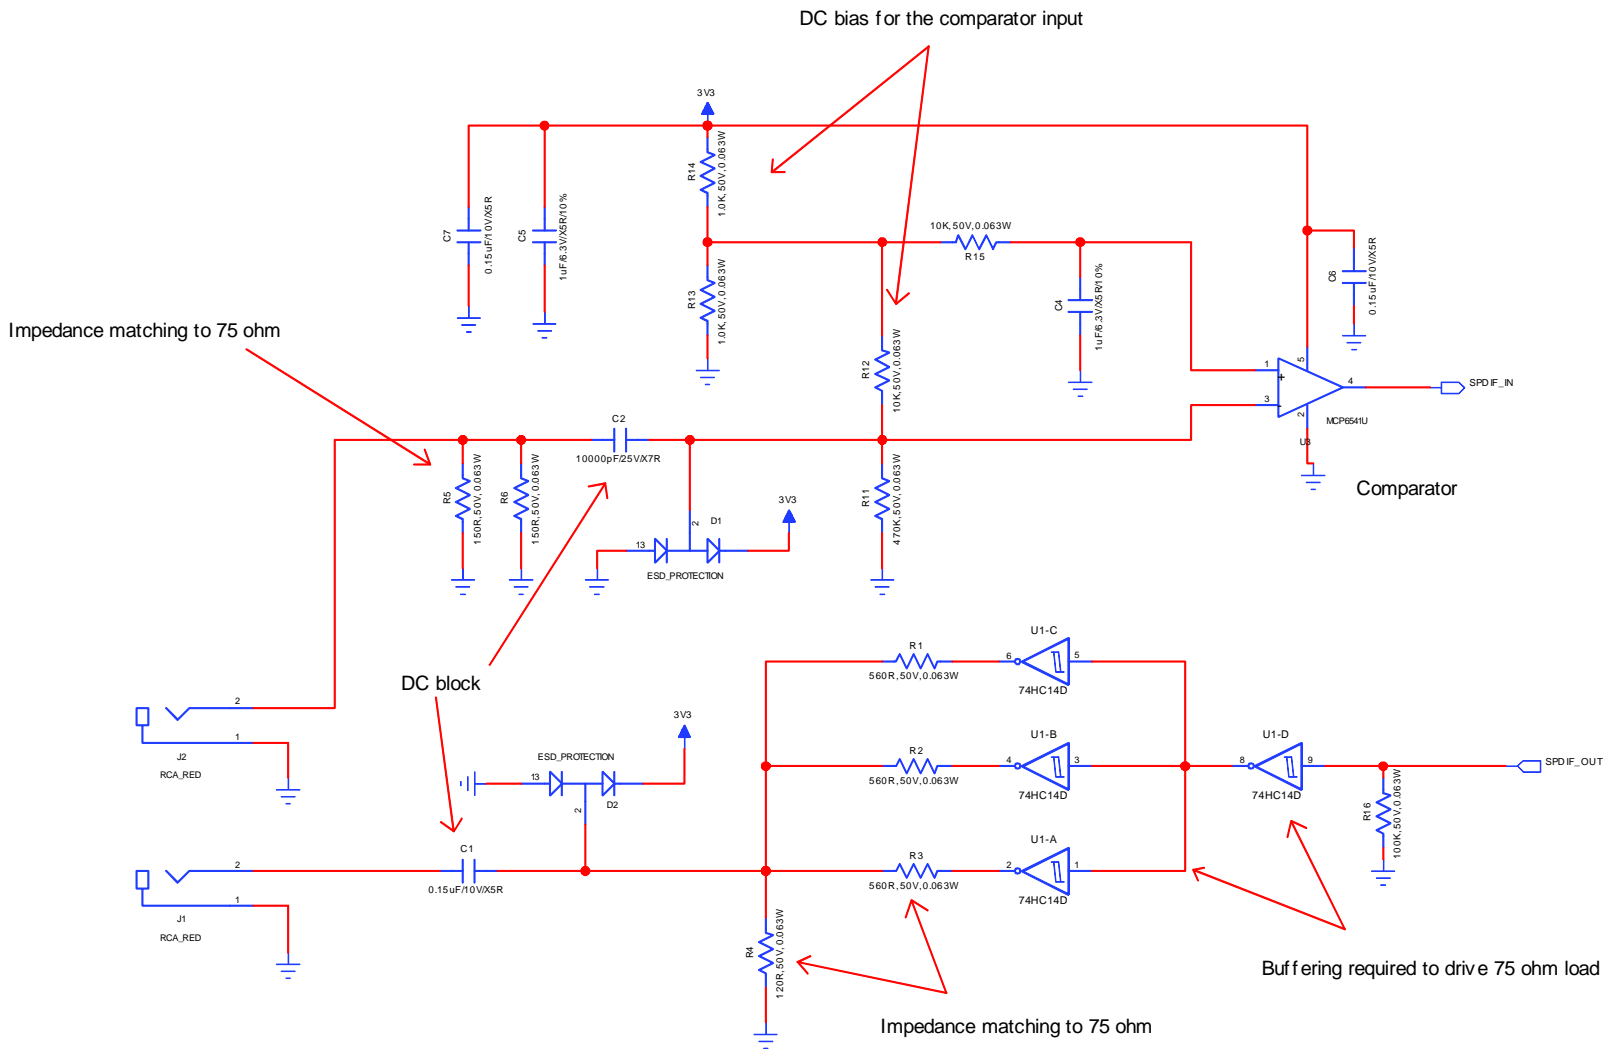

Figure 25: Example circuit for SPDIF interface (co-axial)
- 75Ω coaxial cable with an RCA connector, see Figure 25